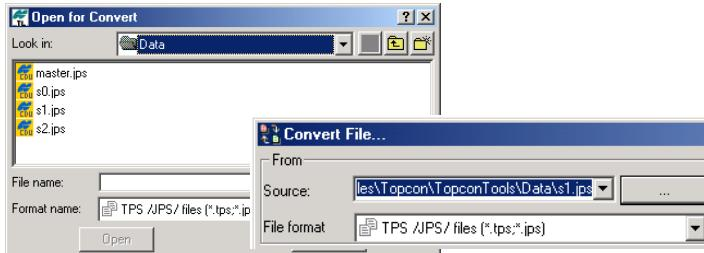

Figure E-24. Select Files to Convert
3. Click the **Browse** (“...”). Select the file to import and click **Open** (Figure E-24).
The full path of the file displays in the *Source* field (Figure E-24).